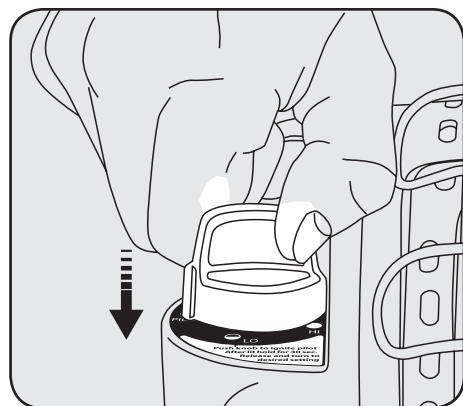

Figure 4
4. Depress and turn Control Knob counterclockwise to "PILOT" position. See Figure 4. Hold Control Knob down in the pilot position for 30-40 seconds.